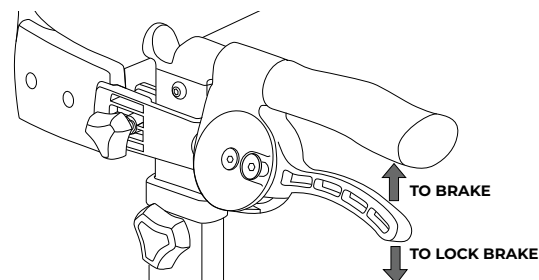

FIGURE 4
4. Pull brake lever up for normal operation; push lever down to lock brake as shown in FIGURE 4.